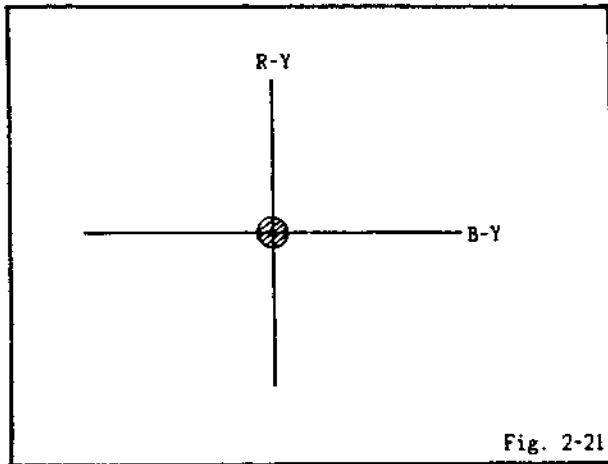

Fig. 2-21
3. Adjust VR8002 and VR8003 so that lighting point is collected in the center of the vectorscope. (Refer to Fig. 2-21)